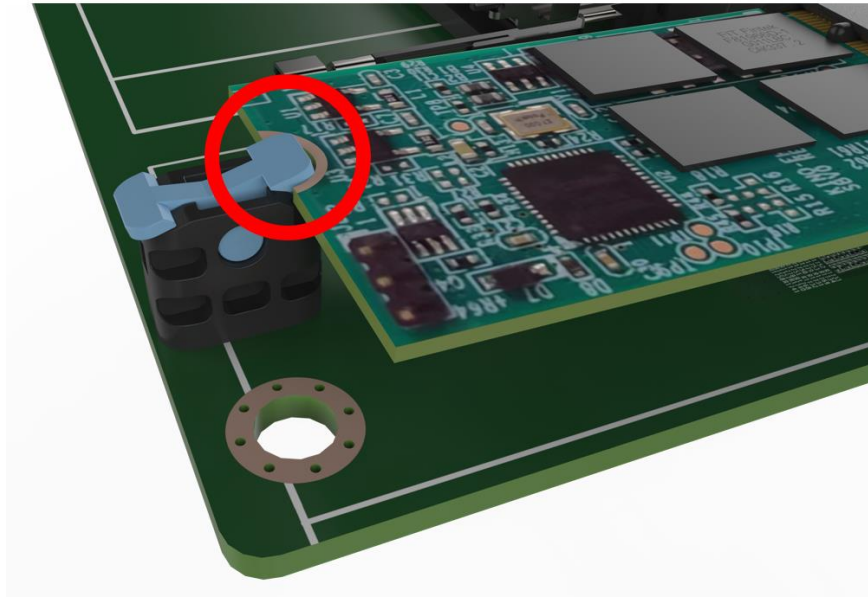

Figure 3-5: Insert M.2 Card
Step 4: Insert M.2 card. The notch at the end of the M.2 card needs to be aligned with the notch of the fixed buckle (**Figure 3-5**).